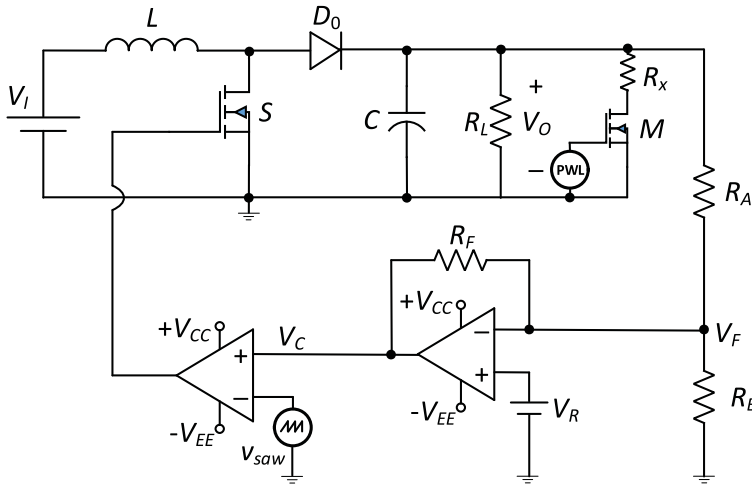

Figure 40.2 Circuit of the closed-loop boost dc-dc converter used to simulate step change in load resistance.
1. Construct the circuit shown in Figure 40.2 on the circuit simulator. The circuit consists of a series connection of a resistor R_x and an ideal MOSFET M and is placed in parallel with the load resistor with the load resistor R_L . Let $R_x = 40 \Omega$. This is needed in order to simulate the step change in the load resistance with respect to time.